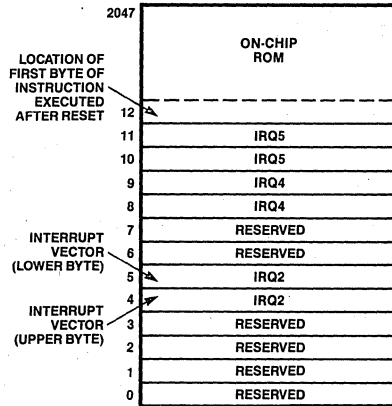

Figure 4. Program Memory Map
**Program Memory.** The 16-bit program counter addresses 2K bytes of program memory space as shown in Figure 4.